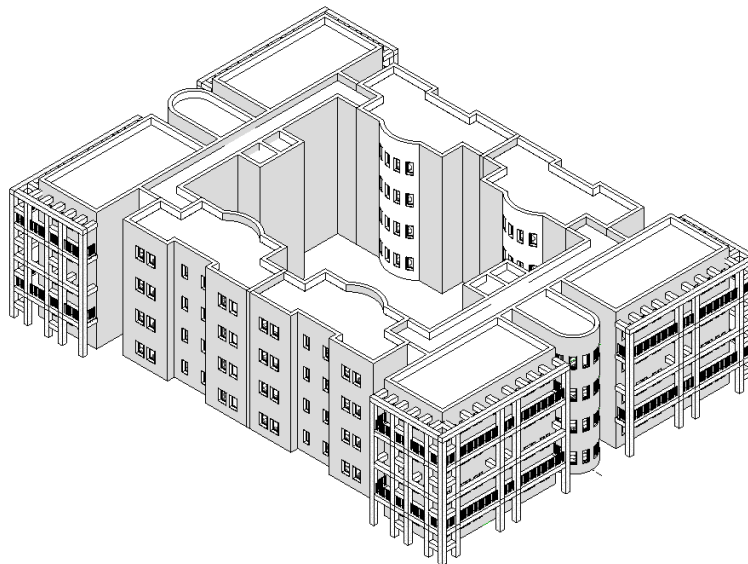

Figure 16-74 The northeast 3D view for the apartment cluster
- c. Open the *Site Plan* project and link the *Apartment Cluster* and the *Club* project using the **Import/Link** tool, refer to Figures 16-74 and 16-75.
9. You may need to ungroup the windows of the circular stair wall to mirror the wall separately. You will also mirror the elements created for Design Option 1, separately in the Site view. Use the drag control to complete the overlapping walls. After completing this step, the northeast 3D view should appear similar to the illustration shown in Figure 16-74.